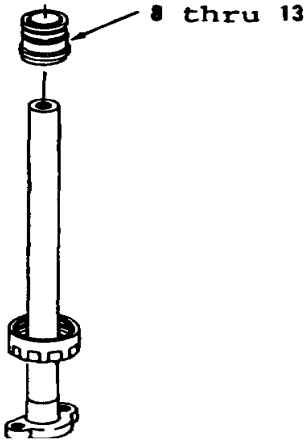

Figure 17-20.
- 7. Remove items 8 thru 13 as an assembly (Figure 17-20).
- 5. Install items 13 thru 8 as an assembly on rod (15, Figure 17-20).